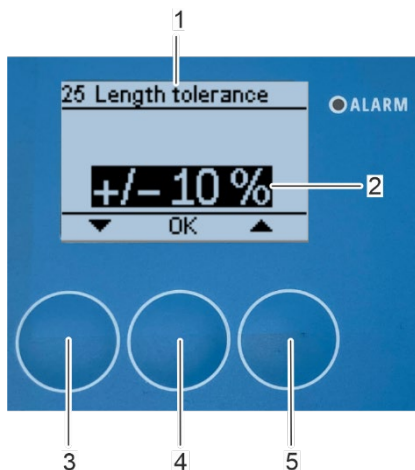

Fig. 135: Set length tolerance
⇒ The "25 Length tolerance" submenu appears on the display (Fig. 135/1).
3. Set the length tolerance (Fig. 135//2) with the arrow keys [up] (Fig. 135/5) and [down] (Fig. 135/3).
4. Confirm the setting with [OK] (Fig. 135//4).